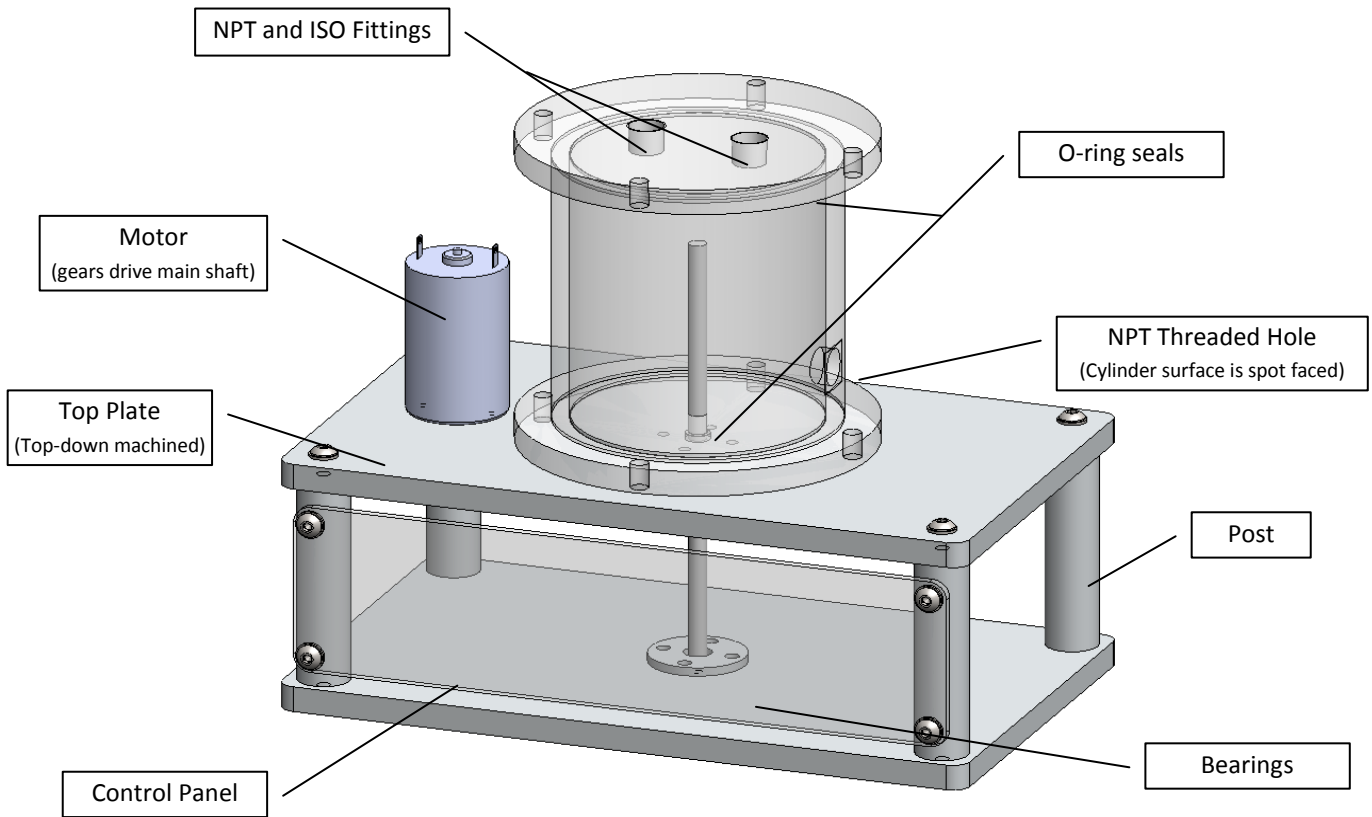

Figure 2.4 – Mixer Device
- The mixer device shown in Figure 2.4 is the example prototype assembly.